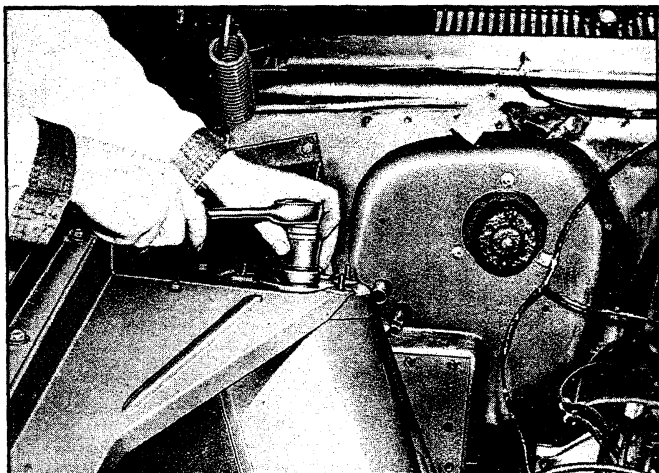

Fig. 24 - Compressing Front Spring - Chevy II
5. Fit the tool upper pilot to top of spring and compress spring by tightening upper nut (fig. 24). Compress spring until screw is bottomed out.